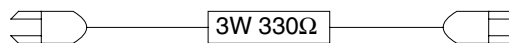

Fig. 2
1. Short-circuit the cathode side of D927 and the GND of the DECK ASSY using the jig shown in Fig. 2.
**Note2:** Short-circuit the Shield Case and the cathode side of D927 using the jig shown in Fig. 2 before attaching the DECK ASSY.